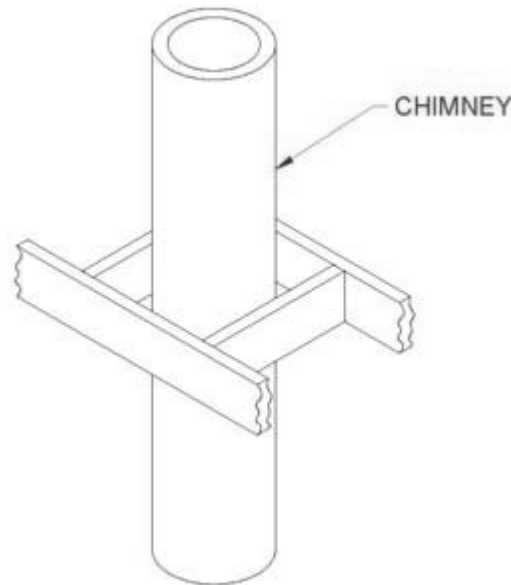

Figure 43
1. Cut and frame the holes in the ceiling, floor and roof where the chimney will pass and install rafter protectors (see figure 43). Use a plumb bob to line up the center of the holes. Make sure that the size of the floor and ceiling holes are in accordance with the chimney manufacturer's instructions.